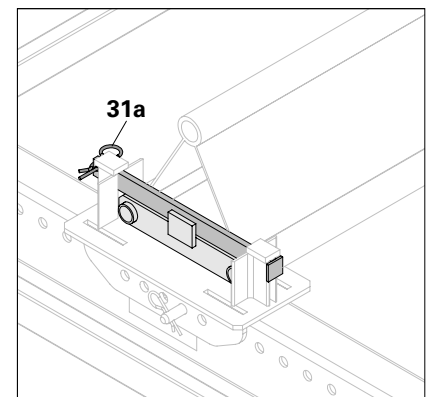

Fig. A10.02c
8. Insert Cotter Pin (31a) into the hole of the Holder. (Fig. A10.02c)